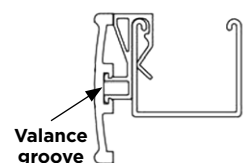

Figure 4
- Hook valance clip with attached valance onto the top of the headrail (Figure 4).
- Hook the valance clip with attached valance onto the top of the headrail (Figure 4)